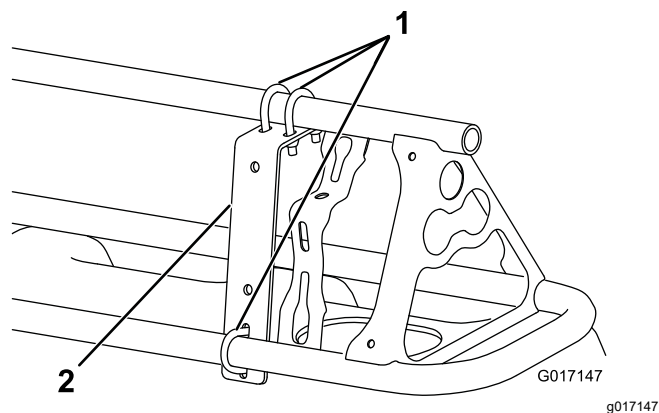
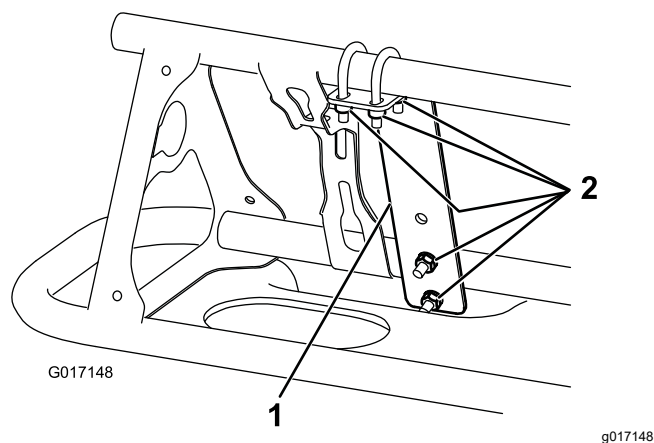

Figure 15
Figure 16
1. Install a mounting bracket on the front side of each boom near the outermost nozzle (Figure 15 and Figure 16) with 3 U-bolts and 6 locknuts (1/4 inch) .